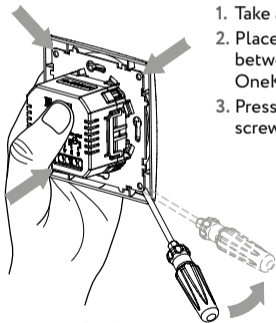

Fig. 4
2. Place a screwdriver in the corner between the steel frame and the OneKeyElectro frame (Fig. 4).